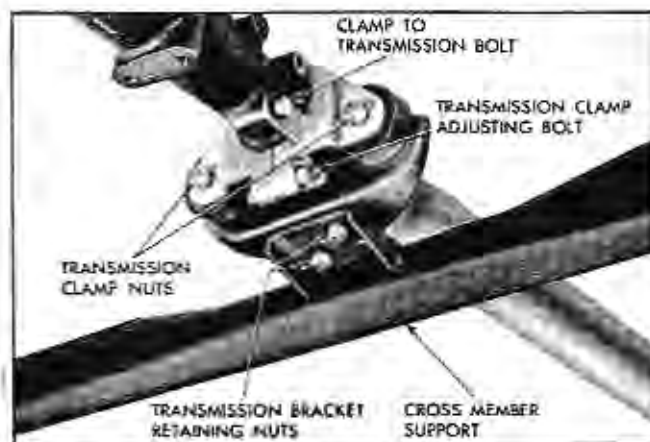

Fig. 6-89 Rear Engine Mount—Synchro-Mesh
4. Very carefully lower engine, clutch and transmission assembly into place in car. Fasten rear extension bracket to frame cross member (Fig. 6-89) and fasten front insulator to front cross member.